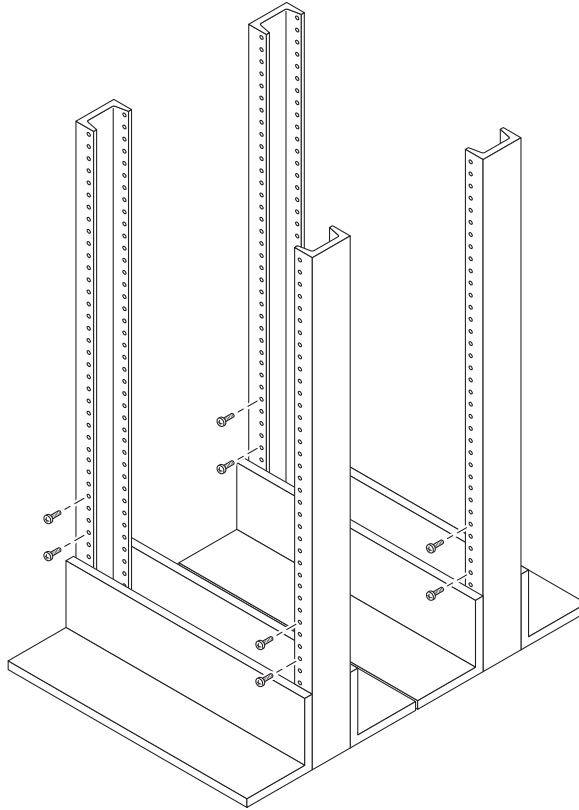

FIGURE 2-23 Inserting Screws in the Front and Back Mounting Holes
1. Insert eight 12-32 screws (two in each post) in the back mounting holes of the left and right posts (FIGURE 2-23). Do not tighten at this time.